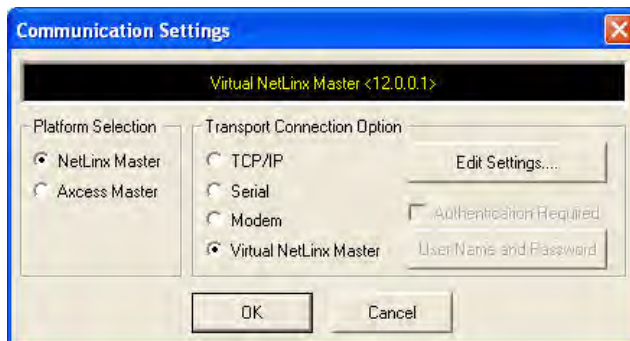

FIG. 90 Communications Settings dialog box
2. Click the **Communications Settings...** button to open the *Communications Settings* dialog box (FIG. 90).